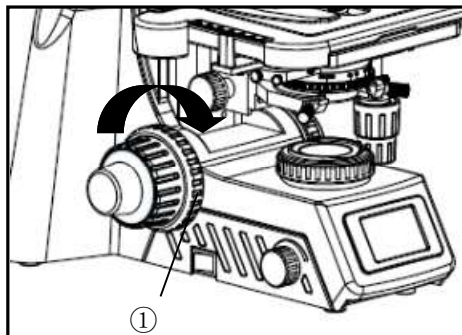

Fig.20
3.2.5 Adjusting the tension adjustment collar (Fig.20)
- ★ The tension of the coarse focus knob had already adjusted before leaving factory. If it is too loose (the mechanical stage slides down because of its own weight), please turn the tension adjustment collar ① until the tightness is appropriate. When the collar is turned in the direction of the arrow, tension of the coarse adjustment knob increases. Turning the collar in the opposite direction decreases the tension. If the stage descends on its own or if the specimen gets out of focus quickly even when it is brought into focus using the fine adjustment knob, it means the tension of the coarse adjustment knob is too low. Turn the collar in the direction of the arrow to increase the tension.